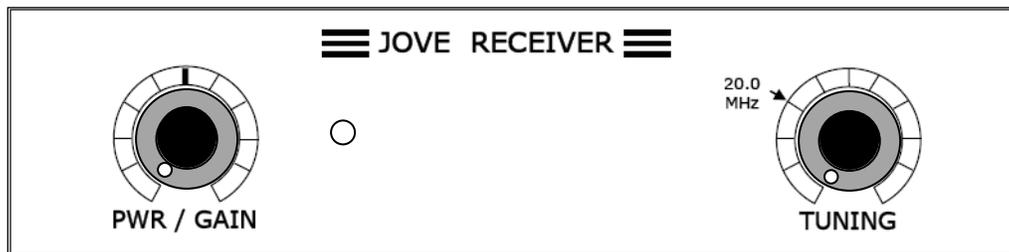

Figure 10. Jove receiver front panel with knob alignment.
3.  Install the two knobs. Align them so that when the control is turned full counterclockwise, the index mark is near the 7 o'clock position (Figure 10). Once the knob set screw is tightened down, the full counterclockwise rotation and the full clockwise rotation of the knob index mark should be equal-spaced from the 6 o'clock position.